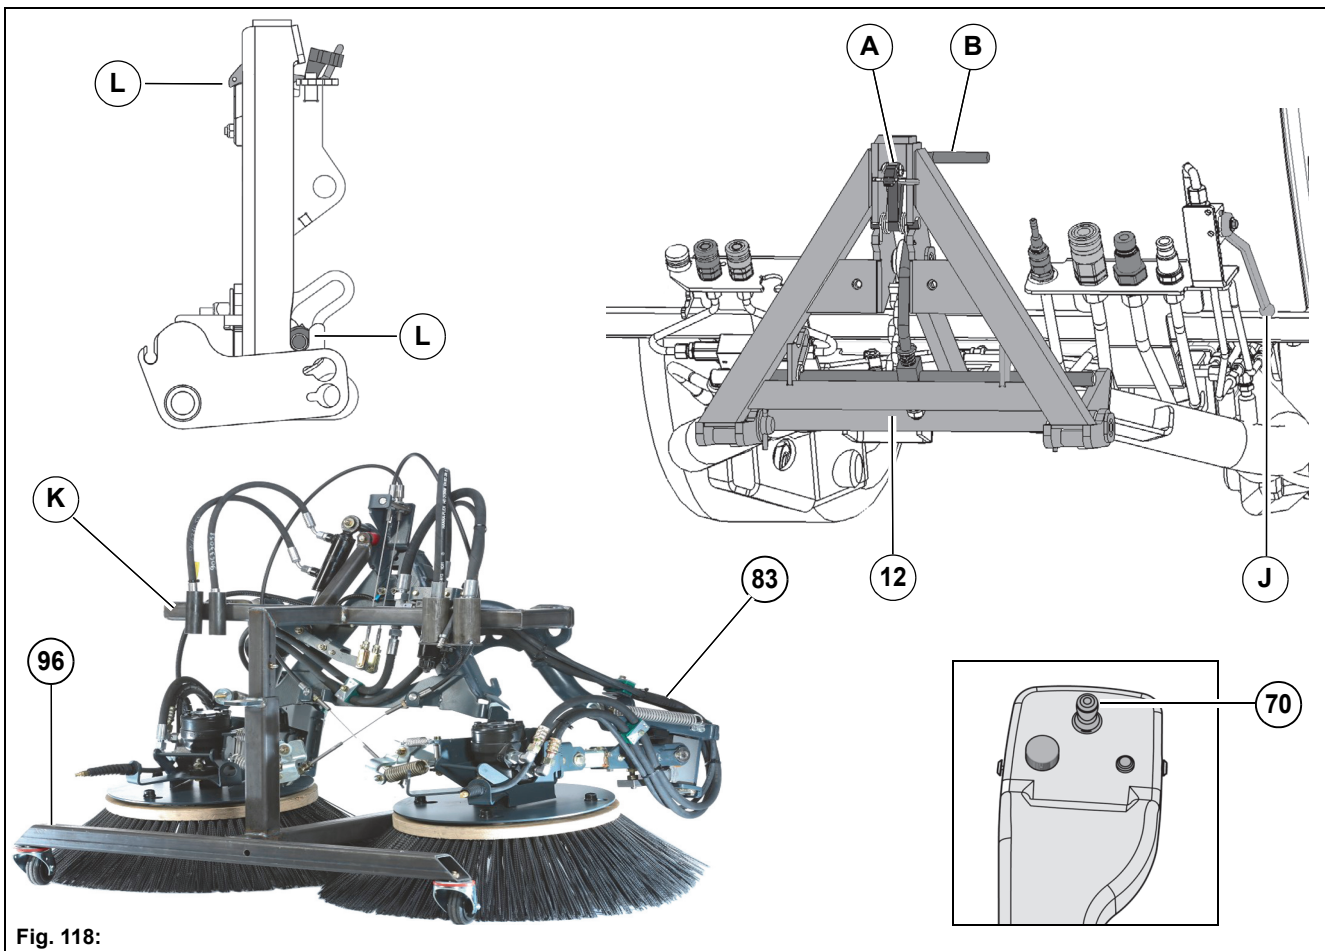

Fig. 118:
2. Unlock the locking hook **Fig. 118-A** and locking rod **Fig. 118-B** on the front tool carrier **Fig. 118-12**. Close the valve **Fig. 118-J** for raising the suction mouth and lower the front tool carrier.
6. Lock the sweeping unit with the locking hook and locking rod. Check the backlash on the locking hook, see **Fig. 118-L**, adjust if necessary with elongated holes.
7. Open the valve **Fig. 118-J** for raising the suction mouth.
8. Push down the upper part **Fig. 118-K** of the trolley and pull it out from the sweeping unit.